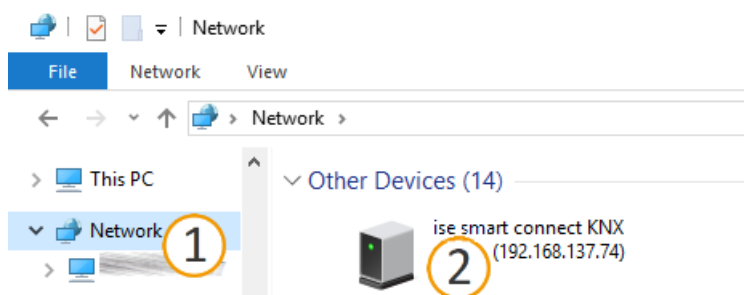

Figure 17: Accessing the device website via the network environment
- Alternatively, select the device in the network environment category <<Other devices>> (see figure 17, item 1): Double click on the device icon (see figure 17, item 2).